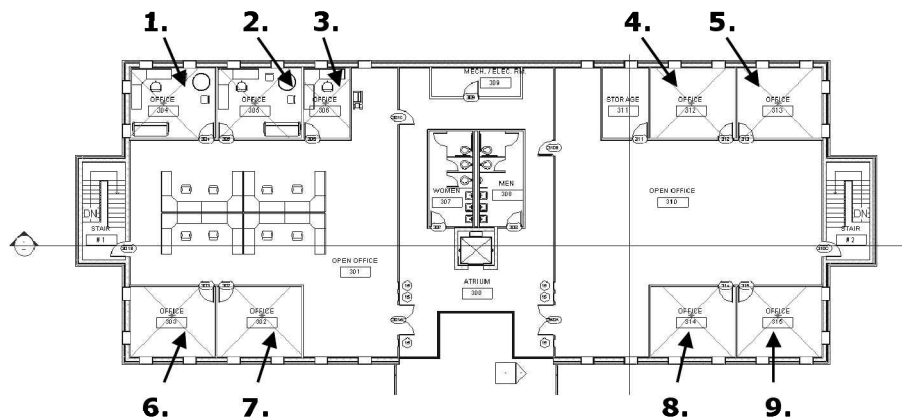

FIGURE 12-3.5 Level 3 – selected room
11. In the Level 3 plan view, select the *Rooms* (not the room tags) for all private offices – 9 total (Figure 12-3.5).